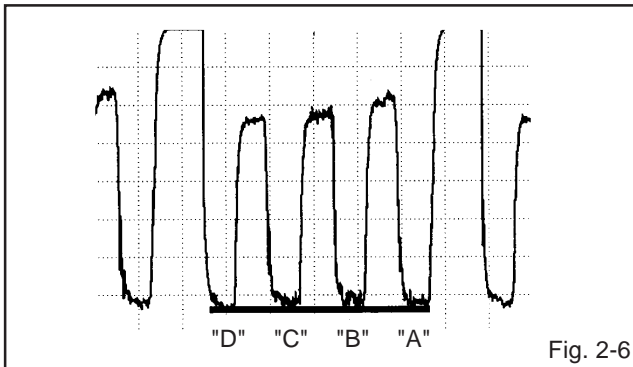

Fig. 2-6
7. Adjust the LEVEL "A" section of Blue to the LEVEL "D" section of White by pressing the VOL. UP/DOWN button on the remote control. **(Refer to Fig. 2-6)**